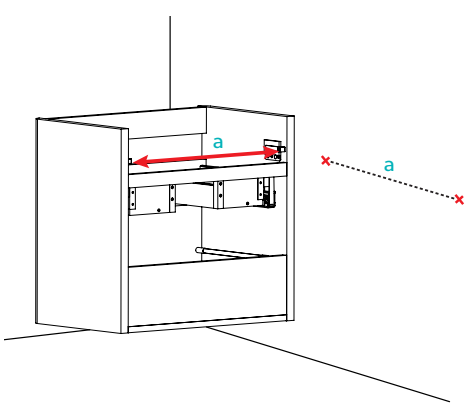

Fig. 2
3. Measure the spacing on the back of the unit, between the two inner sides of the carcass (*Fig. 2*) this is the maximum bracket spacing. Measure the required mounting point height taking into account the basin to be used.
4. Transfer measurements onto wall using a spirit level to ensure they are straight and level and spaced correctly as per *Fig. 2*.